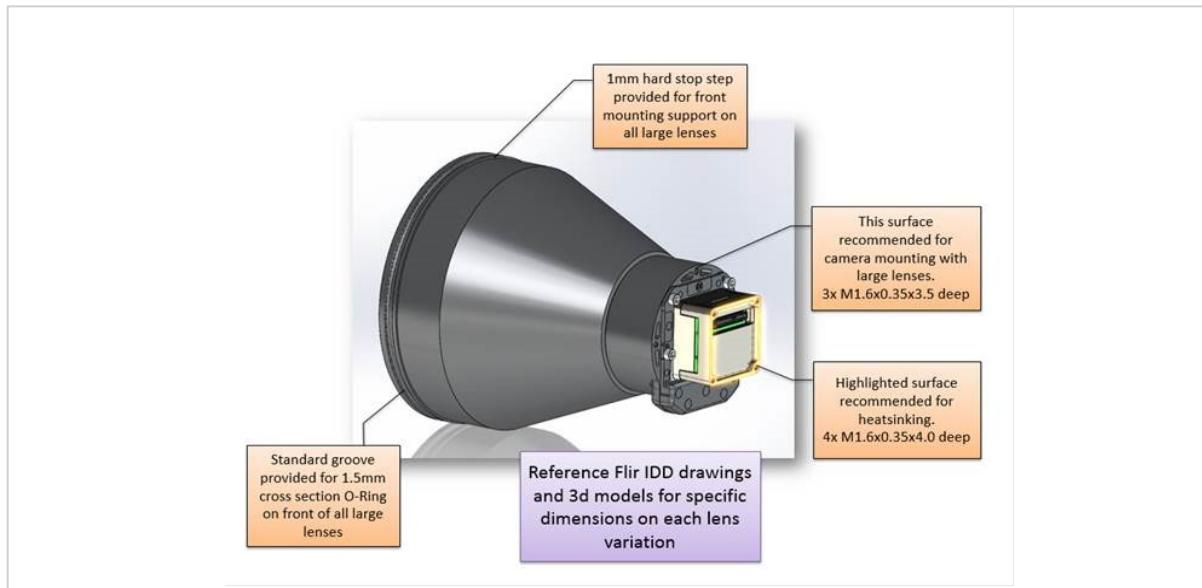

FIGURE 58: MOUNTING GUIDANCE FOR LARGE-LENS CONFIGURATIONS
- **Rear Mounting:** The rear cover of the Boson+ assembly provides four threaded holes (M1.6x0.35). See the relevant Mechanical IDD for more detailed information. Zinc-plated screws with thread penetration of 2.5 to 3.5mm are recommended. This is the preferred mounting for radiometric capable cameras. Heatsinking from the rear of the camera should contact the entire surface highlighted in Figure 58 to promote thermal uniformity similar to the Boson tripod-mount accessory in Figure 75.
- **Lens Mounting:** Boson+ should be supported at its lens for all Boson+ configurations for which the mass of the lens assembly is greater than the mass of the sensor engine. This condition is true for every lens that uses the M24 or M34 flange (Table 12). Each of those lens assemblies provides suitable features for mounting and sealing, as summarized in Figure 58. Even configurations mounted via the lens features require heatsinking via the rear surface. Correct orientation of the camera is with the connector located above centerline, as shown in Figure 6. Rotating the camera 180 degrees so that the connector is below centerline, rather than above, will result in an upside-down image
Adequate heatsinking is necessary to prevent the Boson+ core from overheating, particularly when operated in temperatures approaching the device upper range. The rear camera cover (highlighted surface in Figure 58) must always be maintained at a temperature at or below 80°C. If the camera's internal core temperature exceeds its maximum safe temperature, Boson+ signals an overtemp condition and by factory-default enters a low-power non-imaging state 10 seconds later. See Section 7.2 for a detailed description of this feature.